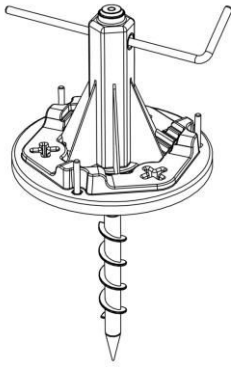

Fig 1
1. Remove Parts F1 – F3 from the Auger stake (B) and set aside.
2. Place the Adaptor (A) on to the Auger stake (B)
3. Place the Turning bar (D) in the hole through the Adaptor and the Auger stake, Fig. 1